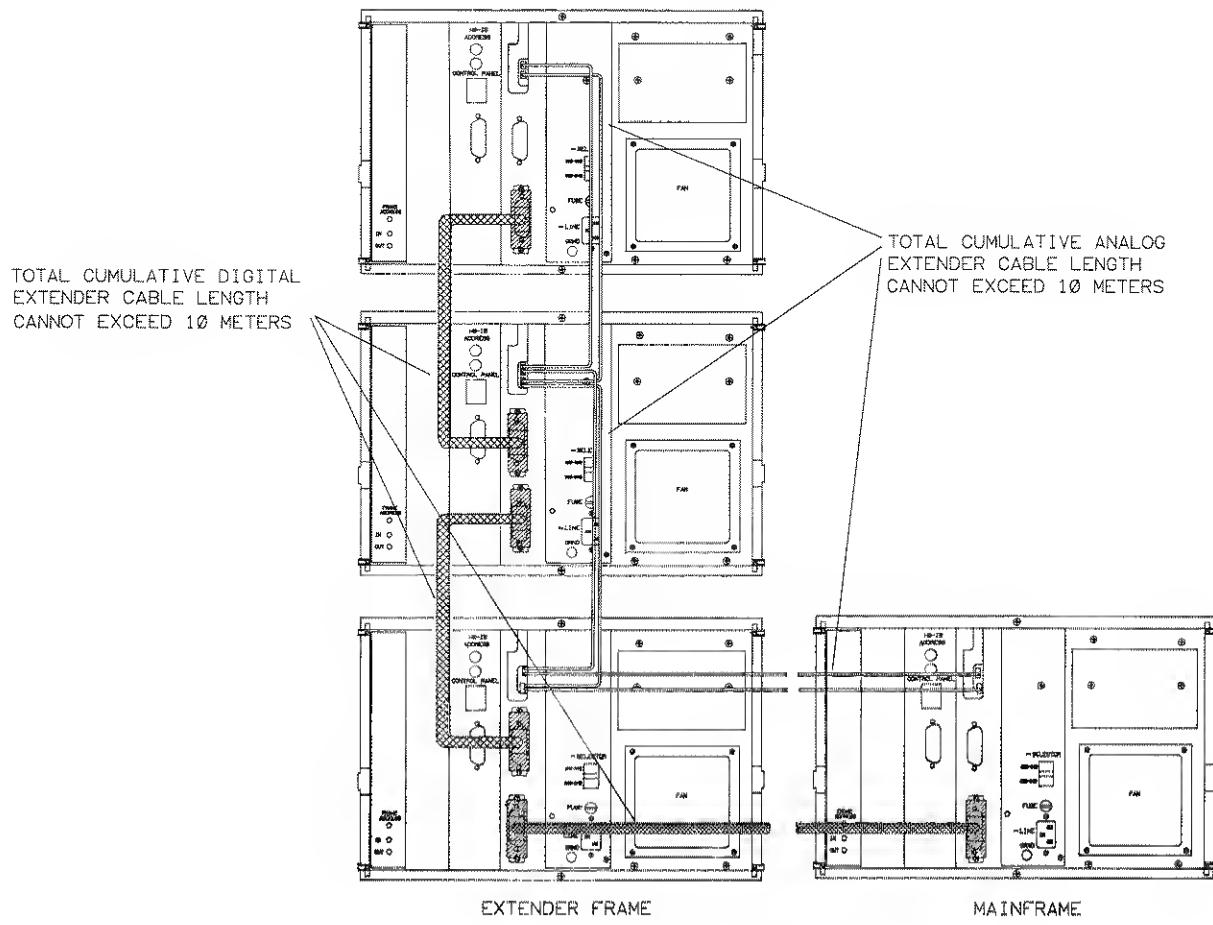

Figure 12. Cable Length Restrictions.
There are cable length restrictions between the mainframe and all extenders in the system. Analog signals flow through the analog extender cables and digital control signals flow through the digital extender cables. To ensure the integrity of the signals passed between mainframe and extenders, cumulative cable length within a system must not exceed 10 metres for either analog or digital extender cables (i.e. each can have cumulative 10 metres). Therefore, this limits the distance an extender can be placed from the mainframe. Up to seven extenders can be added to a mainframe as long as the cumulative length of digital extender cables does not exceed 10 metres. Also, the cumulative length of analog extender cables must not exceed 10 metres. Figure 12 illustrates the cable length restrictions on a mainframe/extender system.
Analog extender cables connect the analog buses of two HP 3235 frames together via Extender Modules. All frames in a system can have the buses tied together to make one common bus. If no extenders are in the system, external connections to the mainframe analog bus are made through the Bus Access Module. Installing the analog extender cable is optional. The cable needs to be installed only if analog bus connections between two modules in different frames are to be made. The alternative is to not use the analog bus and connect the points through the terminal blocks to a module that has analog bus connections. The maximum cumulative length allowed is 10 metres (see Figure 12).
The digital extender cable is the communication link between mainframe and extender. Two connectors on the extender module are present for installing the digital extender cable. The connectors are bi-directional and the cable can be attached to either connector. The maximum cumulative length for the digital extender cable is 10 metres (see Figure 12). A digital extender cable is supplied in a standard length of 1 metre. Option 570 replaces the 1 metre cable with a 3 metre cable. The steps required to install a digital extender cable follow.
- b. Install the digital extender cable to either connector beneath the EXTENDER label. One end to the mainframe and one end to the extender frame. If more than one extender is in the system, connect the second cable from the first extender to the second extender, etc. See Figure 12.